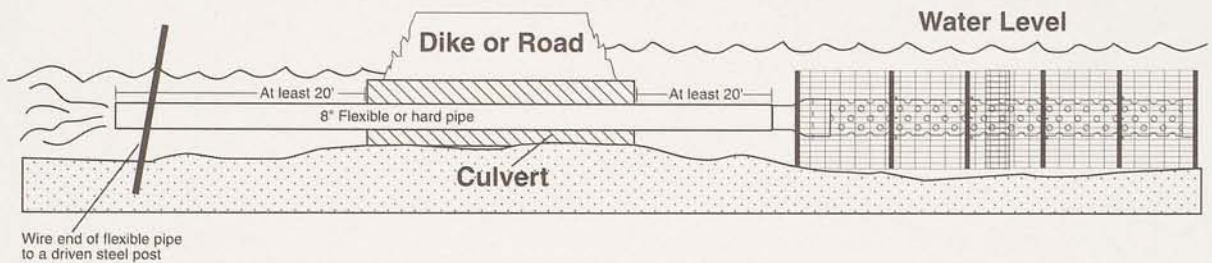

Figure 4. Typical Installation in a Road or Dike Culvert
- The three basic applications are 1) a beaver dam (Figure 2), 2) a water level control structure (various applications), and 3) a plugged culvert (Figure 4). The intake device may be installed parallel to a road or dike using an elbow to connect with the outlet pipe.